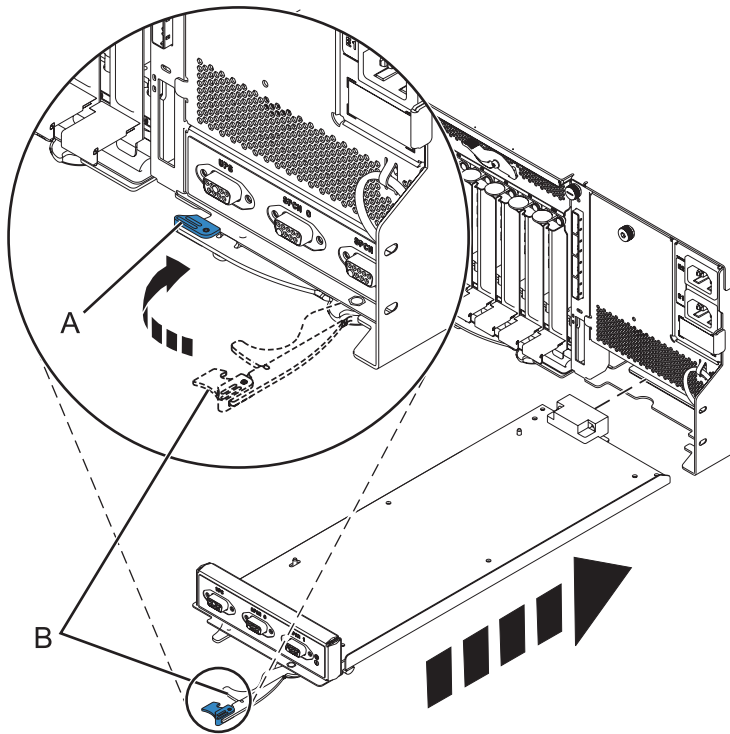

Figure 77. Replacing the enclosure management controller
7. Carefully slide the enclosure management controller into the system and close the latch (A) as shown in Figure 77.